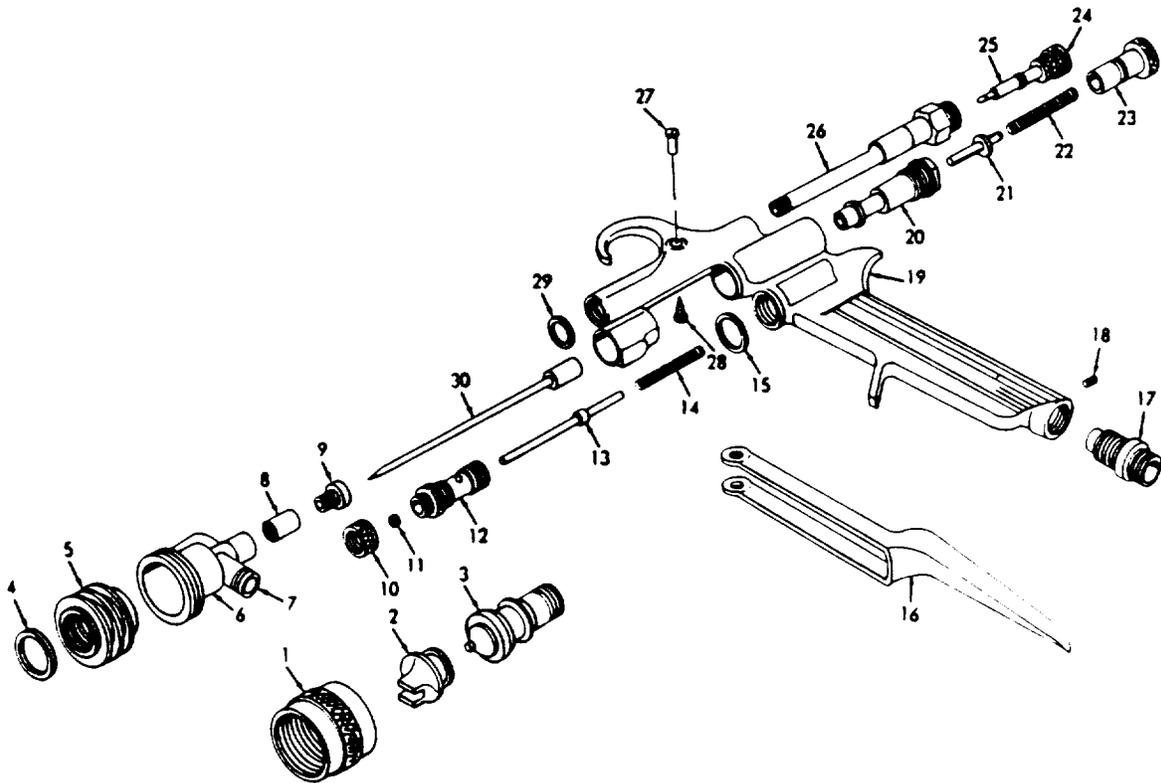

Figure 5-5. Removable Spray-Head Type Spray Gun, Exploded View
a. *Material Leakage from Fluid Needle Packing Nut.* This condition is caused by a loose packing nut or by dry fluid needle packing. To remedy, remove and soften the packing with a few drops of light oil. Re-install and tighten packing nut to prevent leakage. See figures 5-5 and 5-6.